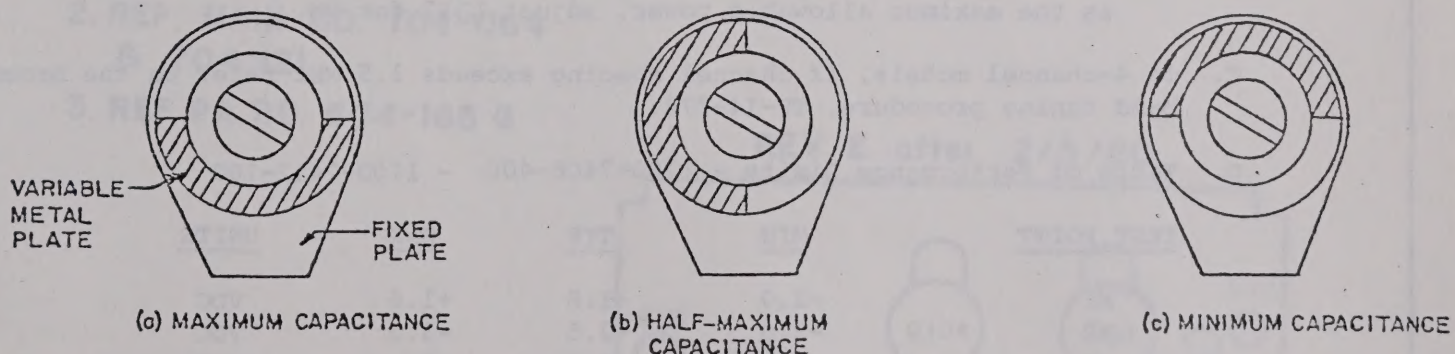

FIGURE 2
- Preset C346 and C349 for minimum capacitance. Preset C351 and C355 at half maximum capacitance. Preset C358 for maximum capacitance (see Fig. 2).
- Preset C348 for maximum capacitance (see Fig. 2). When retuning a transmitter on a new frequency leave C348 in its tuned position until Step B.1.